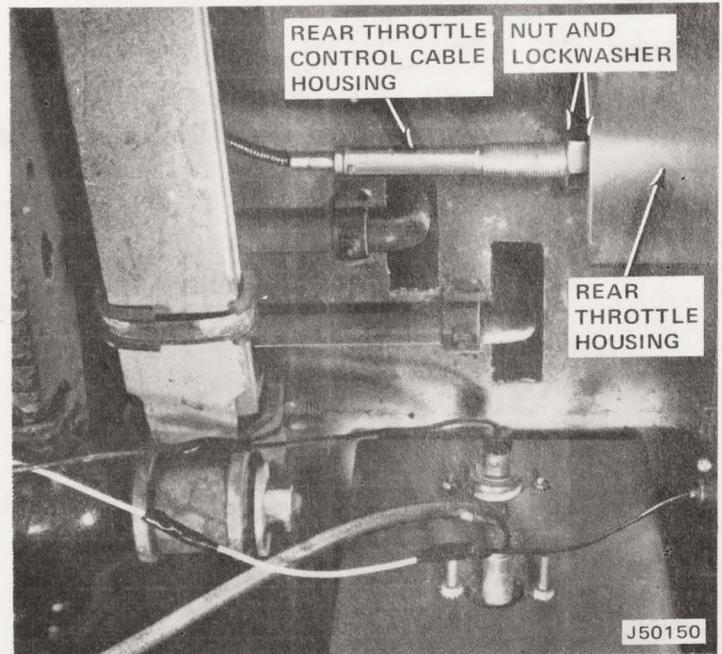

Fig. 10-7 Rear Throttle Control Cable and Housing
(4) Remove nut and washer from back of throttle control in quarter panel (fig. 10-7). Remove assembly and pull cable through chassis.